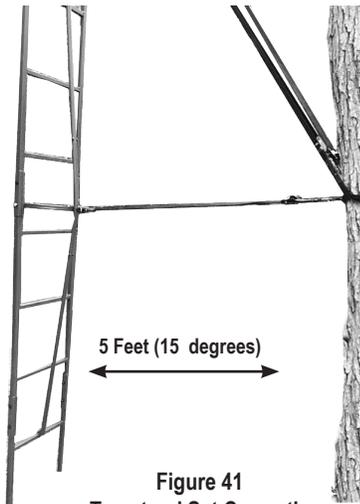

Figure 41
STEP 5: Make sure the ladder is not straight, but has about 15 degrees of angle as shown in Figure 41. This will put the bottom of ladder approximately 5 feet from the tree as shown in Figure 41. **NOTE:** The seat and standing platforms must be level for a proper and safe installation.